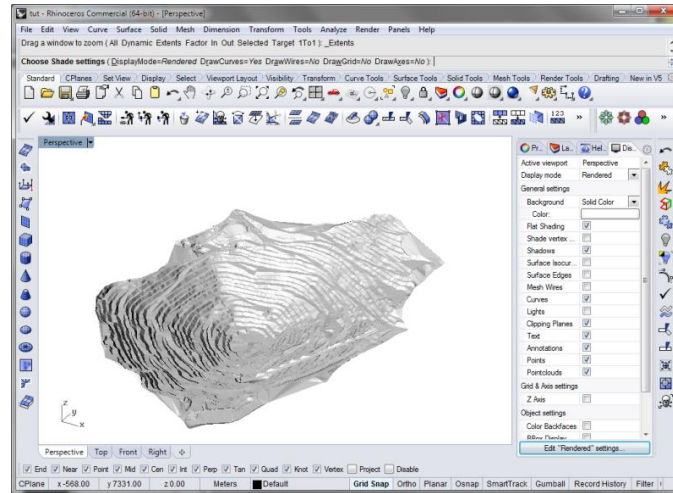

Figure 141: Shaded perspective view.
3. Type **_Shade** and, in the command options, select Display Mode **Shaded** (Figure 141).